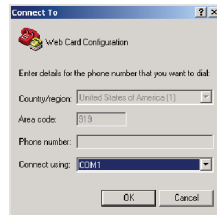

Figure 6. Select Connection
4. Select the appropriate serial connection (such as COM1). See Figure 6.